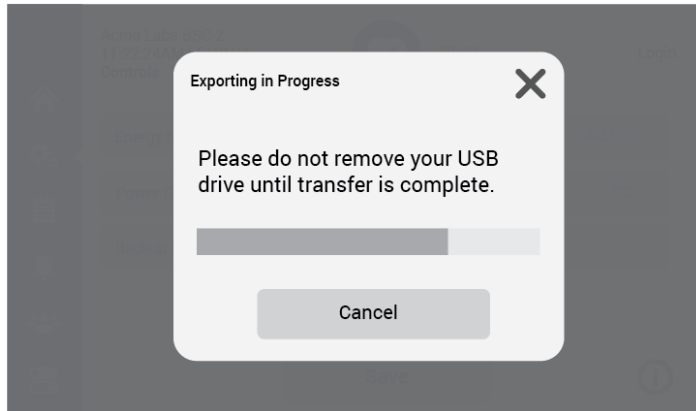

Figure 98 Export Log Screen: Exporting Event Log in Progress Message
- a. If you have inserted a USB drive that is not writable or readable, the pop-up window shown in Figure 98 appears, stating the drive is not readable and asking you to insert a different USB drive.
If you have inserted a valid USB drive, the export will start immediately. The pop-up window shown in Figure 98 appears, cautioning you not to remove the USB drive until the transfer is complete.